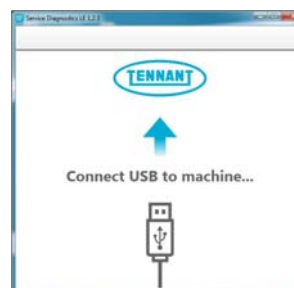

Fig. 15
- After start up, the following screen will appear (Figure 15).